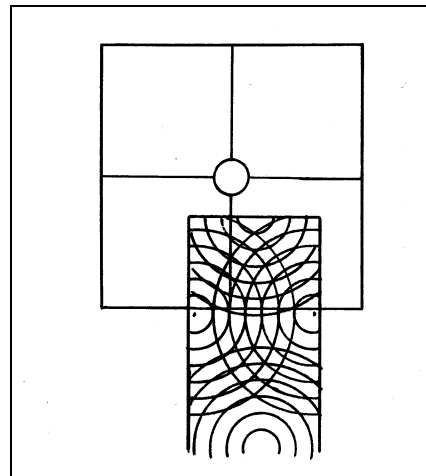

Figure 15b
- 13 Now, move the target or tracking head so that the circle is totally within the light area of the target. See *Figure 15b*. Adjust the lens aperture or light source for a reading of +20% on the front panel meter. If this reading cannot be achieved, then the high voltage to the photo tube may need to be adjusted. See *Focusing and System Noise* on page 12).